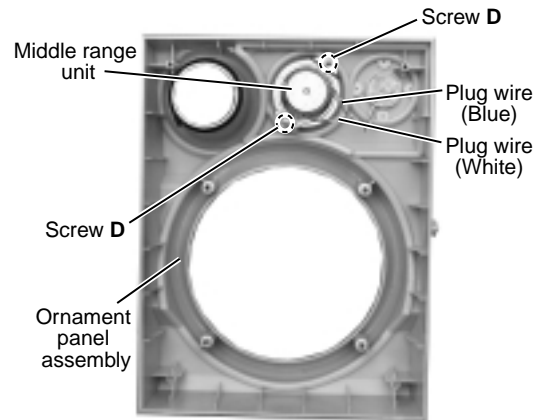

Fig.9
■ Removing the middle range unit (See Fig.9)